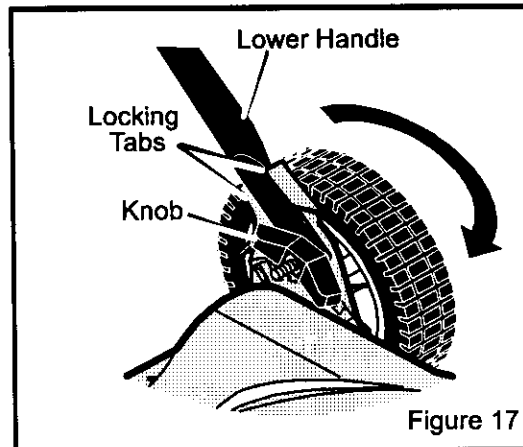

Figure 17
2. Loosen the knobs on the lower handle (Figure 17). Push in on the ends of the **lower handle**. Move the ends of the **lower handle** past the **locking tabs**.